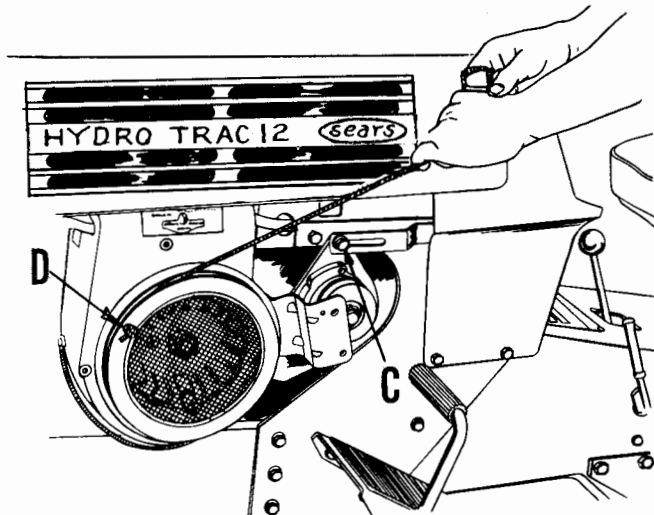

FIG. 23
- c. Secure a piece of rope and tie a knot in one end. Place this knot into notch (D), in engine pulley, refer to Fig. 23.
DO NOT REPLACE V-BELT OR GUARD WHILE ENGINE IS RUNNING. The above method of starting is only a means to get unit to nearest source of battery charging. **DO NOT** operate tractor any longer than necessary with V-belt and guard removed. Stop engine and replace as soon as possible. Be sure to have proper tension on belt, retighten nut (C, Fig. 23).